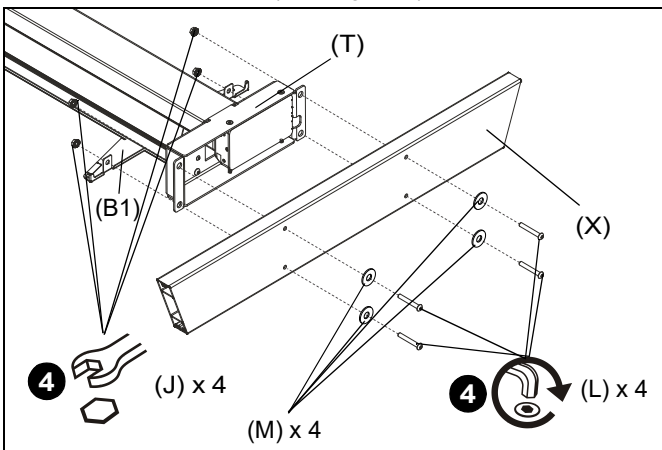

Figure 2
4. Use four 5/16-18 x 2 1/4" button head cap screws (L), 5/16" washers (M) and four 5/16-18" hex nuts (J) to secure cross brace (X) to column assembly (T) and bottom back cover (B1). (See Figure 2)
**NOTE:** Make sure cross brace is positioned in the proper orientation before attaching. There is a "this side up" label on the top. (See Figure 2)